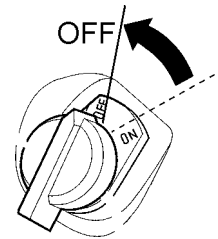

Figure 17. Engine ON/OFF Switch (OFF)
3. Place the **engine ON/OFF switch** (Figure 17) in the **"OFF"** position.
1. Place the **engine ON/OFF switch** (Figure 17) in the **"OFF"** position.